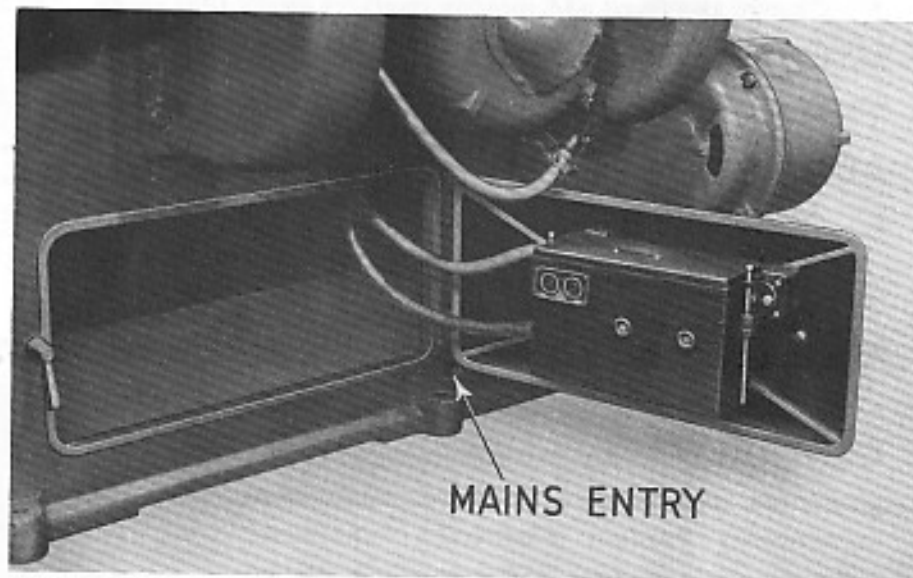

FIG. 18.
2. Connect the line leads to the appropriate terminals, see diagram D 221/3. The cable should be taken to the machine in steel conduit and secured by locknuts to the entrance shown in Fig. 18. Note access to the control gear is obtained by the door, shown in Fig. 18.